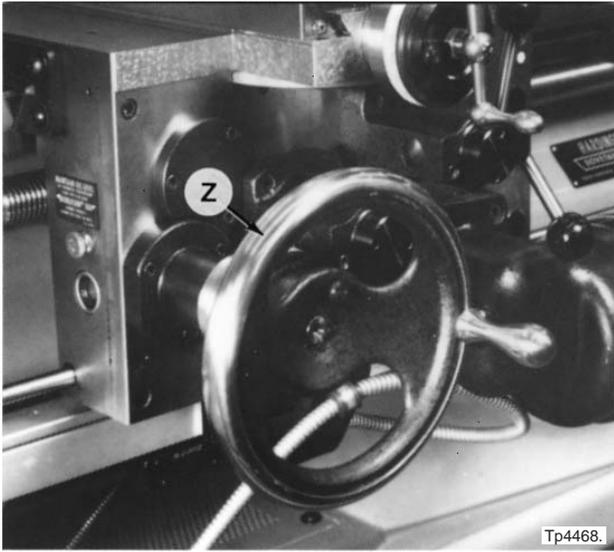

Figure 4.12 - Carriage Handwheel
11. Move the carriage approximately 1/2 inch [12.7mm] to the right using handwheel "Z", Figure 4.12 .